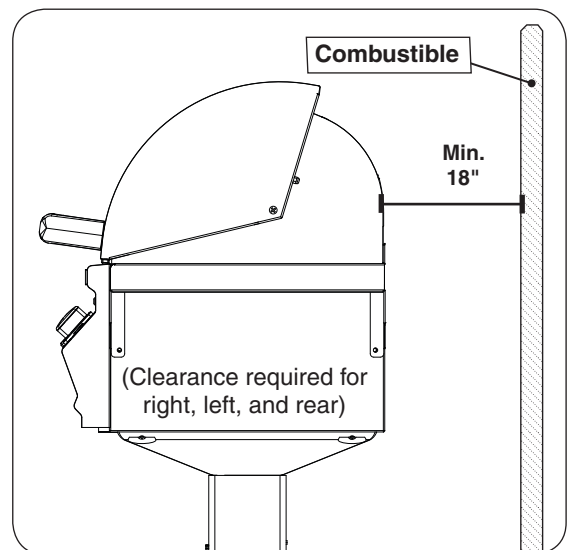

Fig. 9-3 Clearance 'B' Diagram
- The unit must have a minimum of 18" right, left, and rear clearance from any combustible wall (see Fig. 9-3).